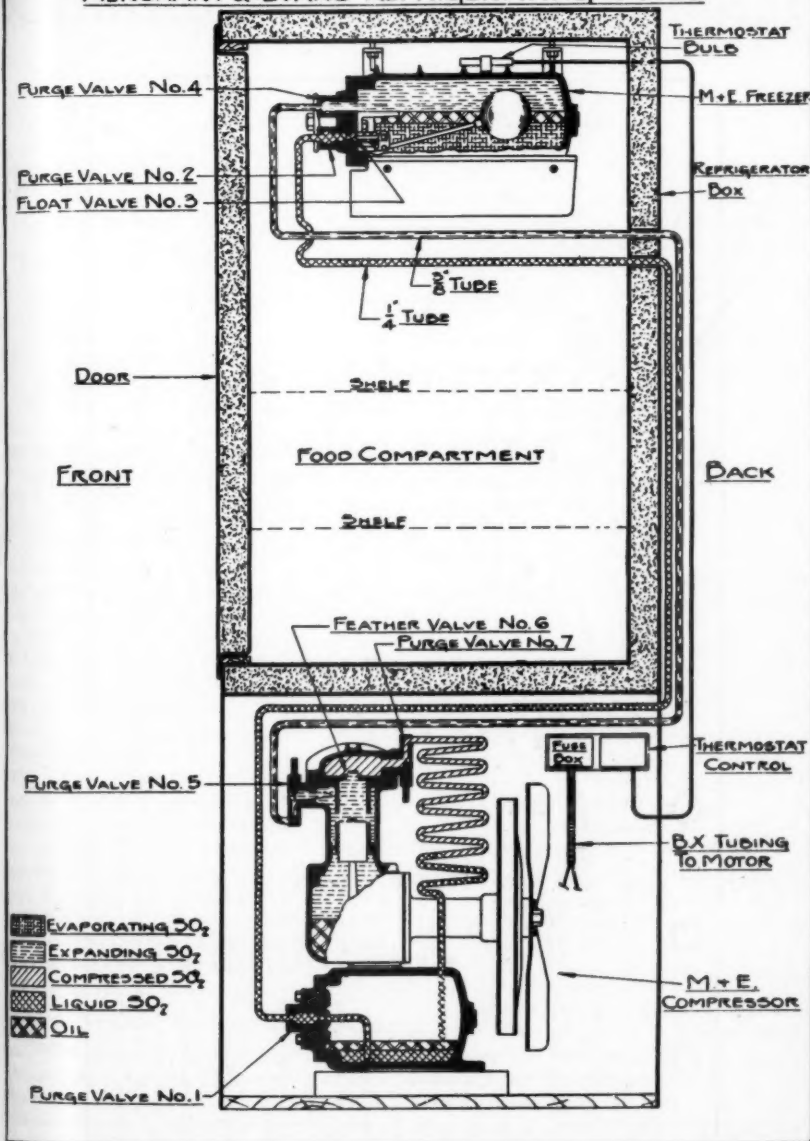

FIG. 2. CYCLE OF COMPRESSION. M & E COMPRESSOR
Fig. 1 shows a hook-up of a low temperature ice cream cabinet and a higher temperature drinking water cooler typical of a soda fountain installation. To prevent freezing up of the water cooler, a snap action or constant pressure type back pressure valve must be installed on the higher temperature drinking water cooler. Again note that the line to the pressure switch is inserted between the check valve and the lowest temperature unit, making the back pressure in the ice cream cabinet the master control. If the line to the pressure switch in Fig. 1 is connected direct into the suction line of the compressor, a very short cycle may result due to the pressure increase of the drinking water cooler coil influencing the cutting-in point of the switch. For this reason it has been found desirable for positive control to use a thermostat control as shown in Figs. 2 and 3. However, in every case the check valve is very important. Figs. 1 and 4 are
The compressor is of the vertical reciprocating long stroke type, fitted with condenser and flywheel or pulley with attached fan. This compressor is mounted on and bolted to the liquid receiver to which the condenser is also attached. The compressor and motor are spring supported. Fig. 1 illustrates the M & E unit. Fig. 2 illustrates the construction and refrigeration cycle.
B. Use as a water cooled condenser (See Fig. 2). It sometimes becomes necessary to convert an air-cooled condensing unit into a water cooled unit. Purpose—to increase the condensing unit capacity. As a result of a lower gas temperature because the cooling water temperature is usually lower than that of the air. A high pressure cut-out switch should be installed.